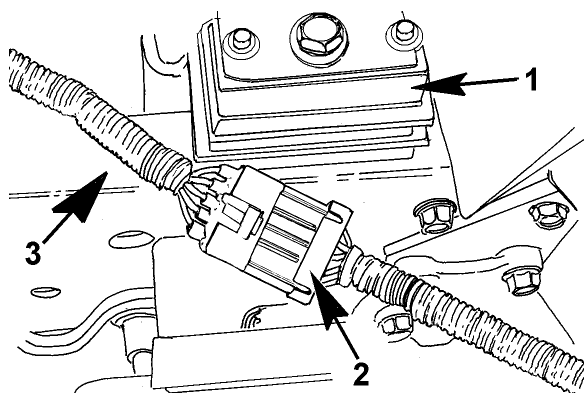

Figure 12 Harness Connections (Each Side at Radiator)
2. Disconnect front end pigtail connectors from the front end wire harness connector (Item 2, Figure 12) located at the top of the frame rail on the drivers side and passenger side of the radiator. Remove wire harness clips and loop clamps securing the harness between dash panel and hood, as necessary. (The harness stays with the hood.)